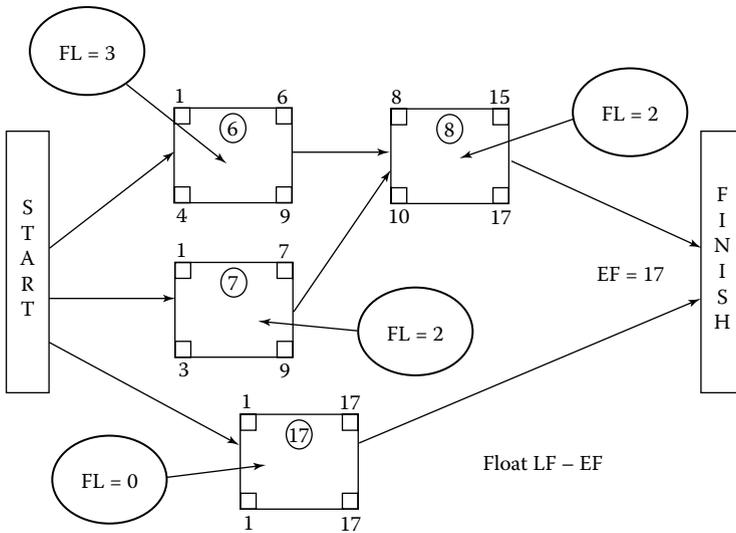

Figure 12.14 Float.
The definition of “float” is the amount of time you can delay the start of an activity before you delay the project. The calculation of float is part of the mathematics of CPA. In mathematical terms, float is the late finish date minus the early finish date (Figure 12.14).
In the example of three paths in Figure 12.14, only one is the critical path — its float equals zero. The other paths have floats of “3” and “2.” The definition of critical path is: the longest, timewise, path through the network and the shortest time in which all the paths of the network (project) can be completed and the path with minimum float. The definition requires a closer look. The first part (longest timewise ...) means just what it says; some interpret this wrongly as the “longest path of activities.” The second part (shortest time ...) requires an emphasis on “all the paths.” Because the critical path is one of the paths, the critical path establishes both the longest and shortest time to complete the project. The third part (the path with minimum ...) requires additional explanation. Some literature says that “A critical path is the path with zero float.” A “zero float” statement is true only when you have applied no constraints to the endpoint date (as shown in the previous example). However, a condition of no constraints on the endpoint is infrequent. More often, a project has a constrained endpoint that is less than the endpoint (EF) established by the team.